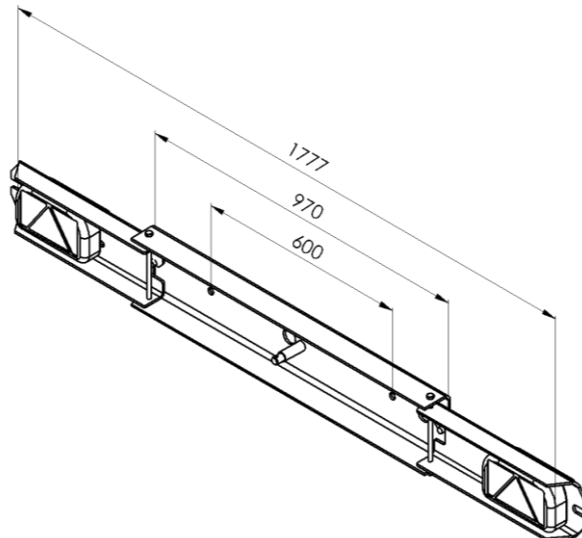

Figure 5. Signal lights
Strength class for mounting bolts of support legs - trailer (pos. 1, fig. 5) has to be 12.9 (DIN912). Use self-locking nuts M24. Tightening torque for the mounting bolts is 1220 Nm.